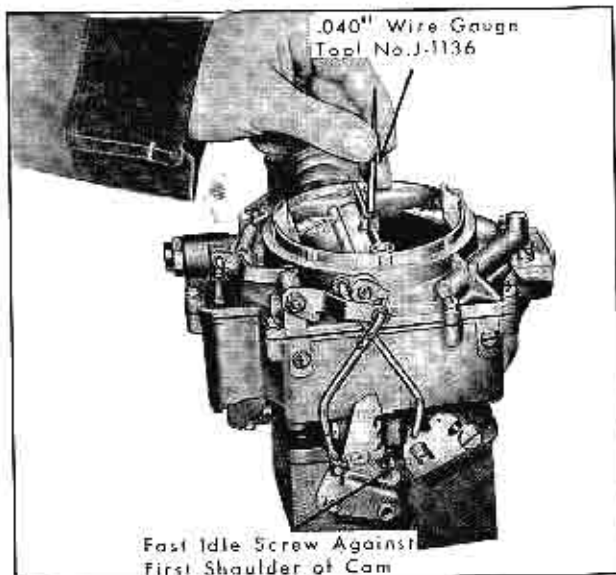
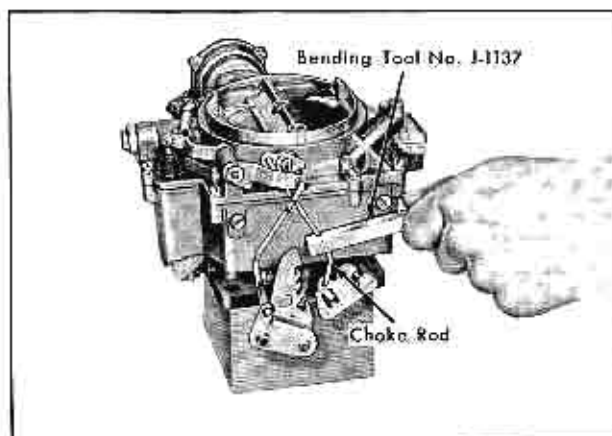

Fig. 12-21 Choke Rod Adjustment
Fig. 12-22 Bending Choke Rod
1. Position fast idle cam and primary throttle so that fast idle screw contacts the second step of fast idle cam, and rests against the shoulder of the highest step, as shown in Fig. 12-21.
3. With the fast idle screw and cam in this position, carefully bend the choke rod to obtain a clearance of .040", as measured with Tool No. J-5196, between the top edge of the choke valve and the dividing wall in the air horn, Fig. 12-21. Using Bending Tool No. J-1137, as shown in Fig. 12-22.